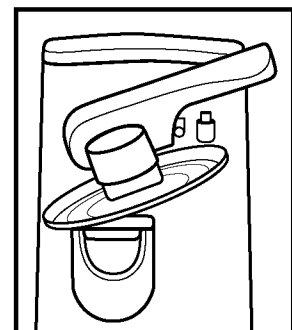

Figure 4
- 6 To release, grasp the can firmly in one hand and raise the lever using the other hand. The magnetic lid lifter will retain the lid as shown in Figure 4.